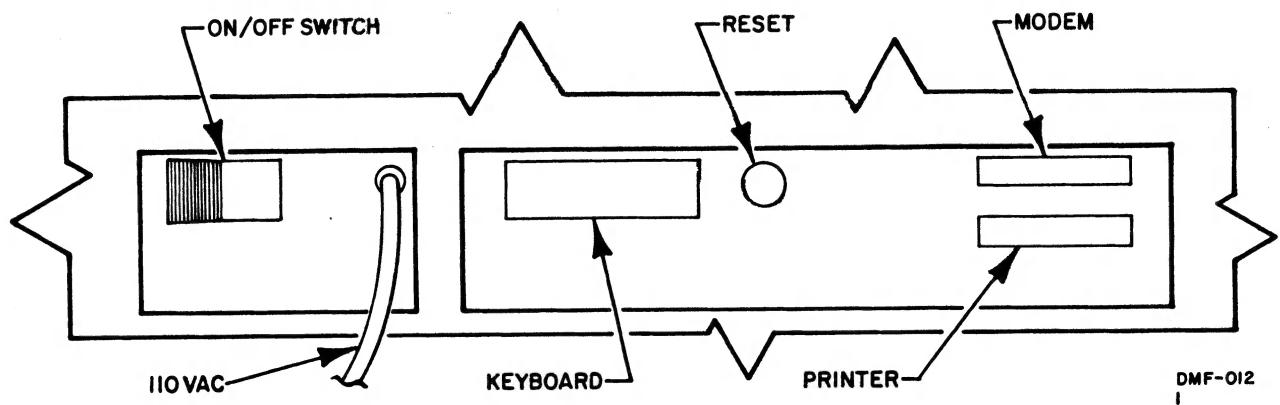

FIGURE 1-2. DATAMAC 800 AS VIEWED FROM THE REAR
- As you are facing the computer, reach around the left right until your hand is at the rear of the system. You should now be able to feel the ON/OFF switch (Ref. Fig. 1-2). Depress until it moves to the opposite direction.
- Upon applying power, the computer will perform a "self test" of its circuits to insure all are operational. Approximately four (4) seconds after power is applied, a beep will be heard. After the test is complete, the word READY followed by a small flashing rectangular indicator called a CURSOR will appear in the upper left corner of the display screen.
NOTE: The SYSTEM RESET button (Ref. Fig. 1-2) is a small RED button located at the rear of the system.